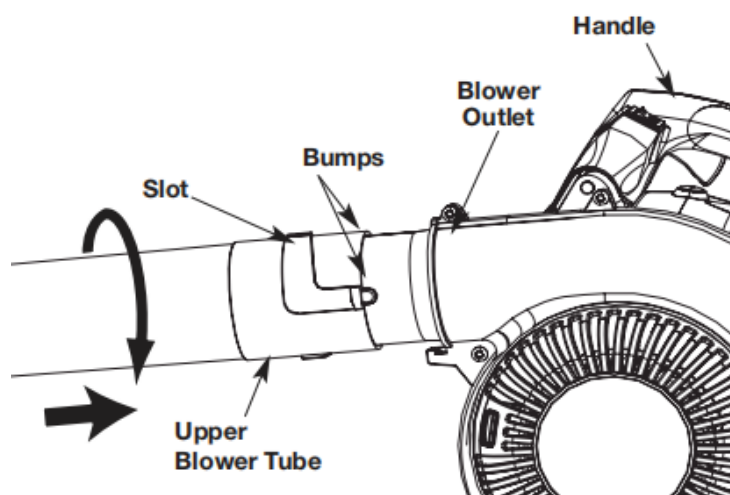

Fig. 1
- Align the slots on the upper end of the upper blower tube with the bumps on the blower outlet (Fig. 1).
- Insert the upper blower tube into the blower outlet (Fig. 1).
- While holding the handle, twist the upper blower tube clockwise until it locks into place (Fig. 1).